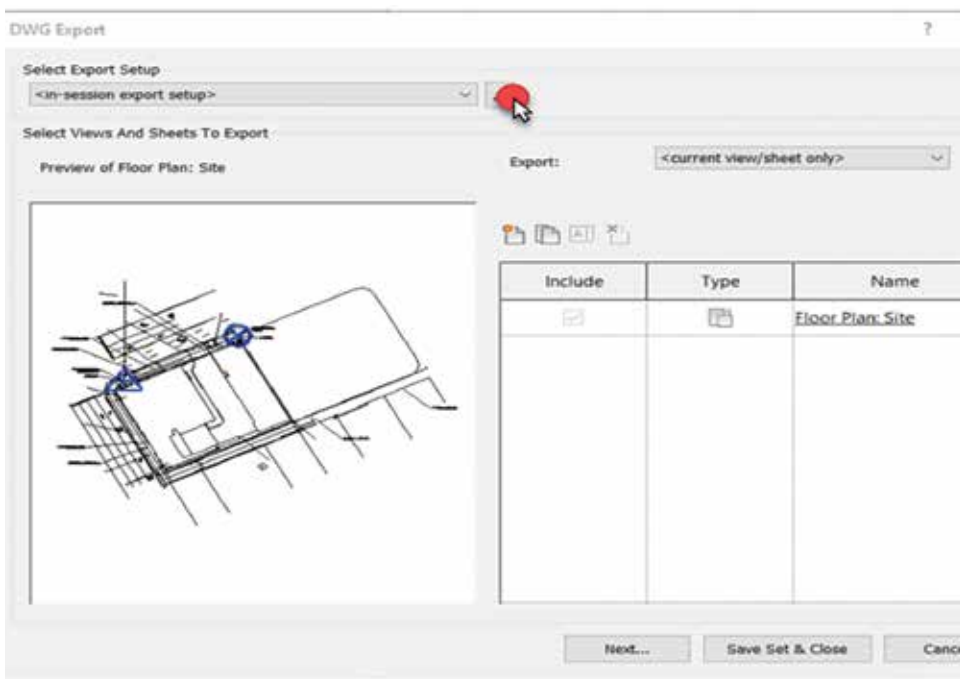

Figure 8
17. Select the "..." button to access the "modify DWG/DXF export setup" settings (Figure 8).